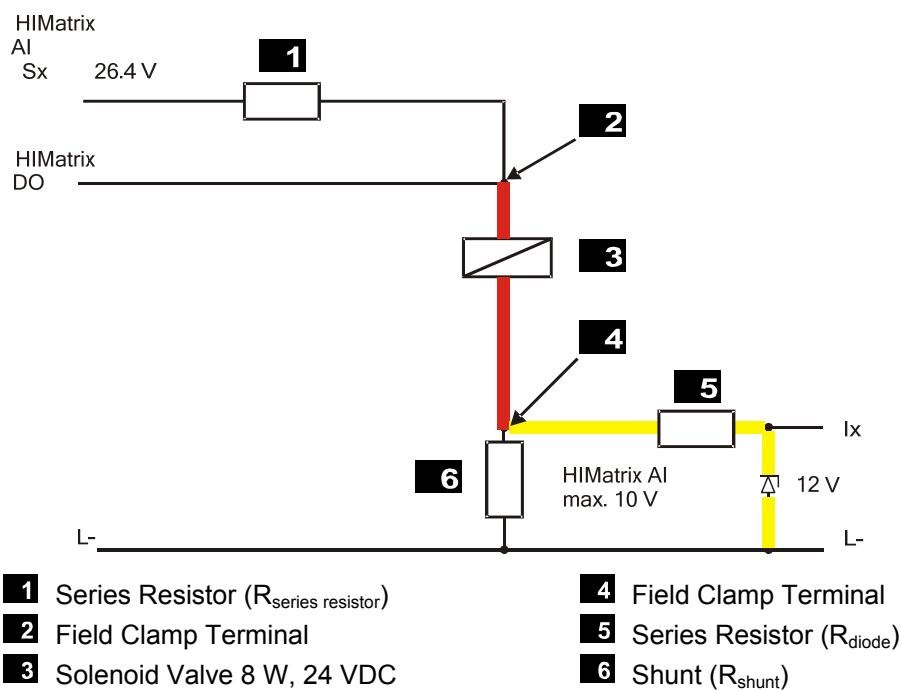

Figure 1: Circuitry for Line Monitoring
Figure 1 shows how the lines connecting a digital output (DO) to an actuator (e.g., solenoid valve) can be monitored for open-circuits and short-circuits.
### Illustration of Figure 1 and Table 7
An open-circuit within the red-colored area (see Figure 1) can be monitored through the voltage drop on the shunt  $R_{\text{shunt}}$ , i.e., the input value of AI, see Table 7.